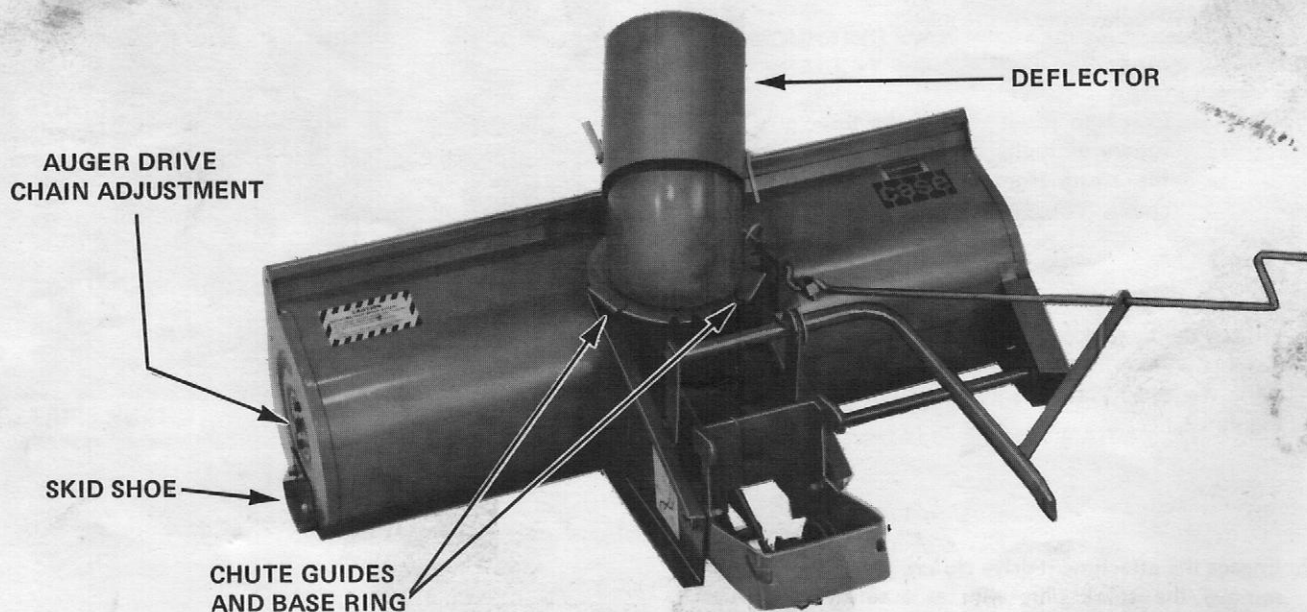

FIGURE 13
1. Deflector - See Figure 13. The deflector has a slotted hole on each side for adjustment. To change the angle of the deflector, loosen the two locking levers. By angling the deflector upward, the snow will be cast higher and further from the tractor. When angled downward, the deflector will direct the snow closer to the ground and it will be cast a shorter distance. Tighten the locking levers when the deflector is adjusted to the desired angle.
2. Skid Shoes - See Figure 13. Slotted mounting holes are provided to obtain the desired clearance between the base of the auger housing and the surface of the area to be cleared. When operating on a smooth surface such as cement or asphalt, the skid shoes can be set at the lower end of the slots. If operating on a rough surface such as gravel or earth, the skid shoes should be set at the upper end of the slots to prevent foreign material from entering and possibly damaging the snow caster.
Grease the discharge chute control crank, chute guides and the chute base ring. Figure 13, daily to keep the crank turning freely.